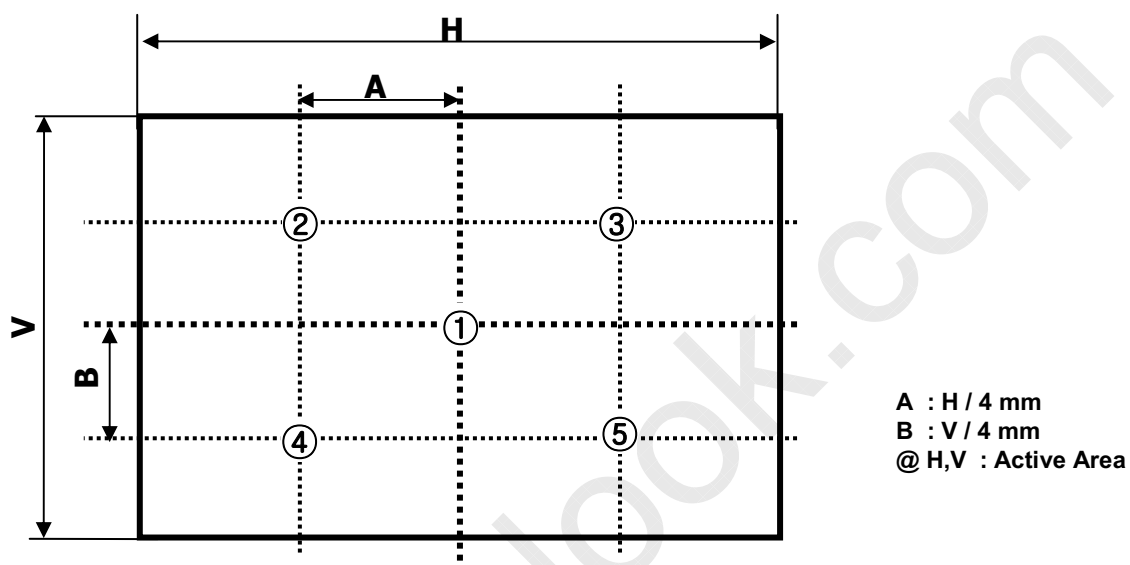

FIG. 2 5 Points for Luminance Measure
n = the Position number(1, 2, 3, 4, 5). For more information, see FIG. 2.
2. Surface luminance is determined after the unit has been 'ON' and 1hour after lighting the backlight in a dark environment at 25±2°C. Surface luminance is the luminance value at center 1-point across the LCD surface 50cm from the surface with all pixels displaying white. For more information see the FIG. 2.
For more information, see the FIG. 2.